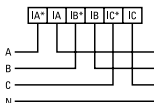

Fig. 2 - Ammeter connection diagram for $I \leq 5A$
Ammeters are connected to the network in series (Fig. 2).
- Connect the device according to the diagrams in Figure 2 and 3.